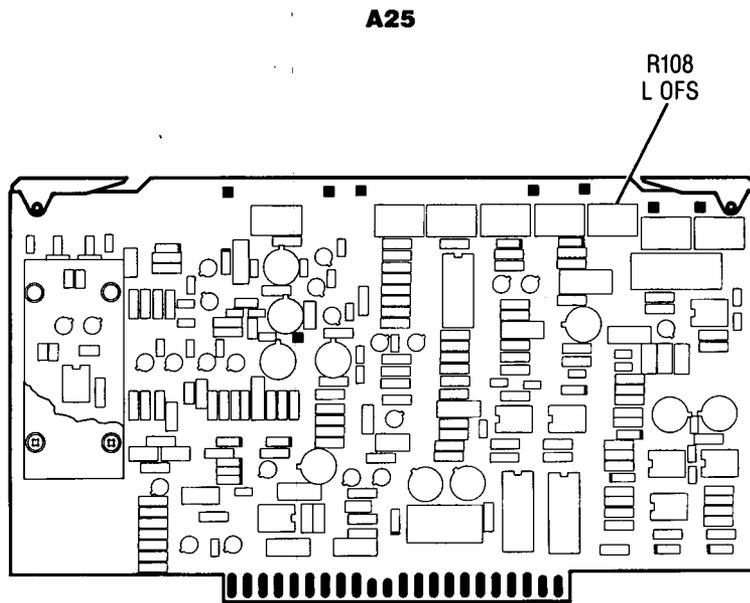

Figure 5-63. Flatness Adjustment Location
17. On the DUT, press **[SHIFT] [GHz] [1] [3] [Hz] [SHIFT] [MHz] [1] [2] [Hz] [SHIFT] [kHz] [2] [2] [Hz]** to access Cal Constant 13. Adjust Cal Constant 13 for a power meter indication of P. Adjust A25R108 (LOFS) (Figure 5-63) for a 0 dBm indication on the power meter.